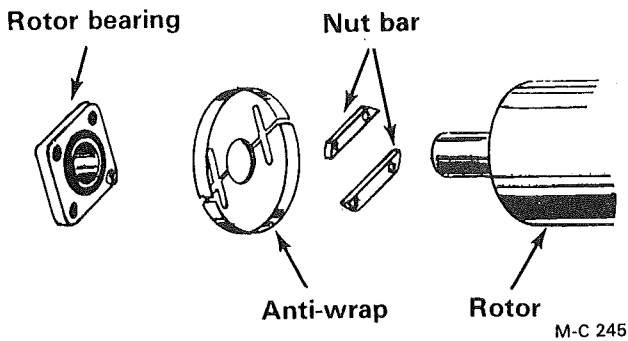

Figure 40
6. Place the four mounting capscrews through the bearing and Shredder body. Refer to Figure 40. Partially thread the capscrews into the nut bars. Slide the two anti-wrap